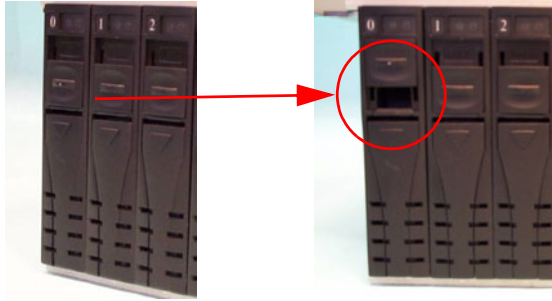

Figure 5.4: Pushing up the latch
2. Push up the latch on the mobile tray (See *Figure 5.4*).